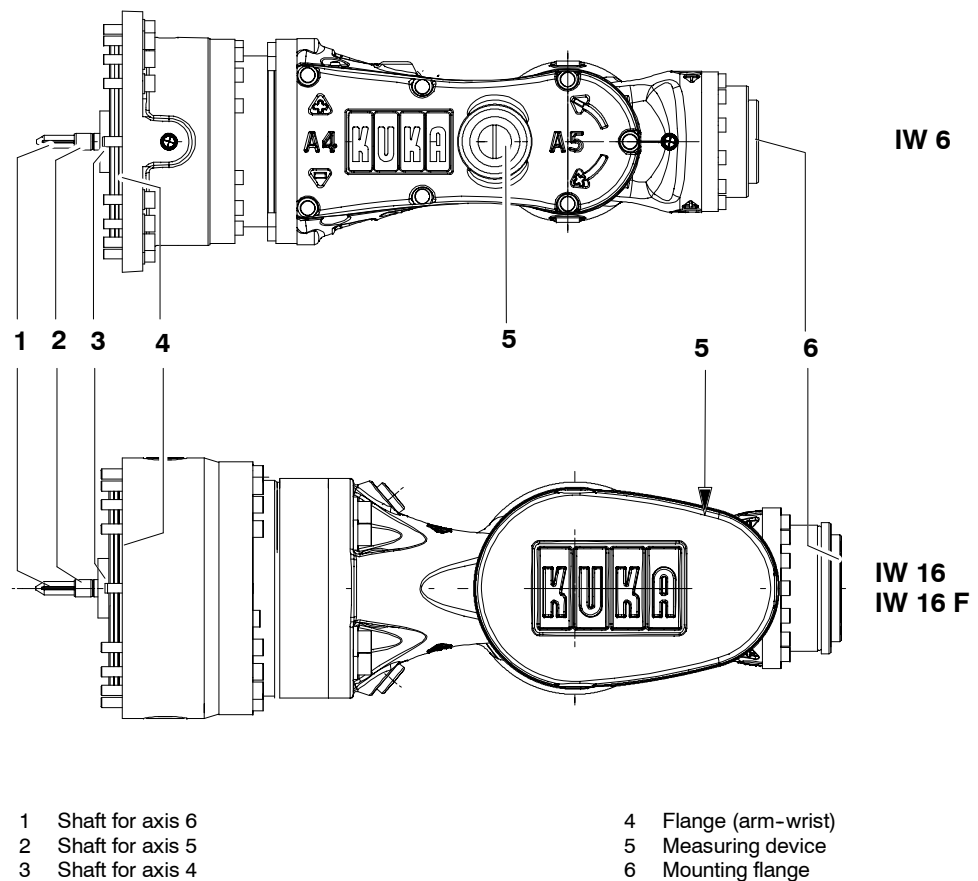

Fig. 2 In-line wrist
The manipulator can be equipped with two different three-axis in-line wrists (Fig. 2) for a 6 kg (IW 6) or a 16 kg (IW 16) payload. The respective wrist is screwed to the arm via the flange (4). The wrist axes A4, A5 and A6 are driven by means of the shafts (1, 2, 3). End effectors are attached to the mounting flange (6) of axis 6. Each axis has a measuring device (5), through which the mechanical zero of the respective axis can be checked by means of an electronic probe (accessory) and transferred to the controller. Directions of rotation, axis data and permissible loads can be found in the Chapter "Technical data". Each wrist variant can only be used with the appropriate "Arm" assembly (see Section 3.3).